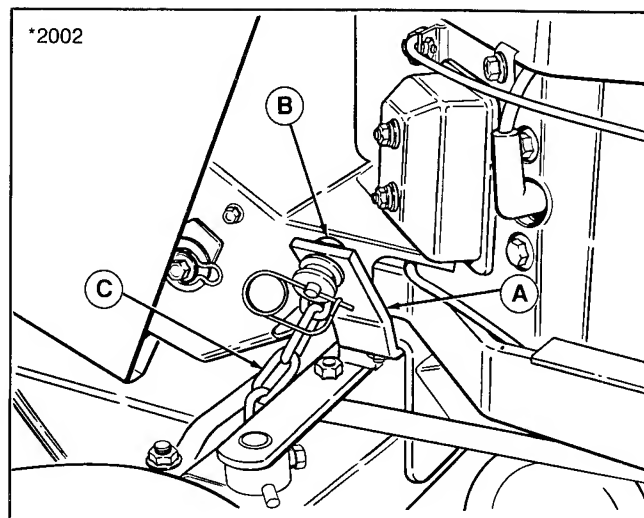

Figure 3. Install Spring Assist Bracket
On single cylinder tractors, clevis pin (B, figure 3) must be installed to bracket before mounting bracket on tractor frame.
7. Install the spring-assist bracket (A, figure 3) to tractor frame (bracket is mounted underneath frame). Secure with capscrew (from top), lockwasher, and nut. Place clevis pin (B) through bracket and install flat washer, chain (C), flat washer, and safety clip.